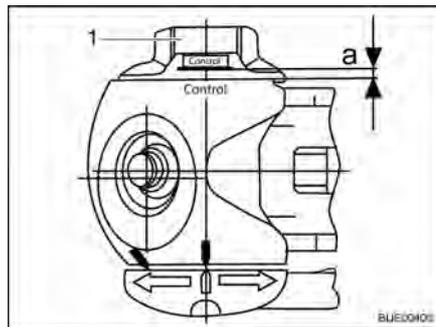

Fig. 196 Friction control
- Turn the handwheel (Fig. 196,1), until it can be heard and felt that the torque limiting mechanism grates. Direction of rotation: In a clockwise direction.
- Distance $a > 0$ (Fig. 196): Wear within the permissible range.